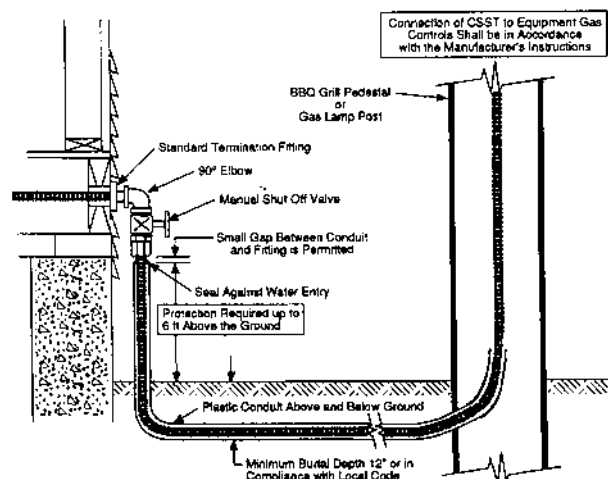

Figure: 4-39
4. Yard mounted lights shall be connected to the **TracPipe® CounterStrike®** system as shown in Figure: 4-39: All piping installed below grade shall be protected by non-metallic, water-tight conduit or **TracPipe PS-II** for underground use. Exposed ends of the conduit shall be sealed against water entry.